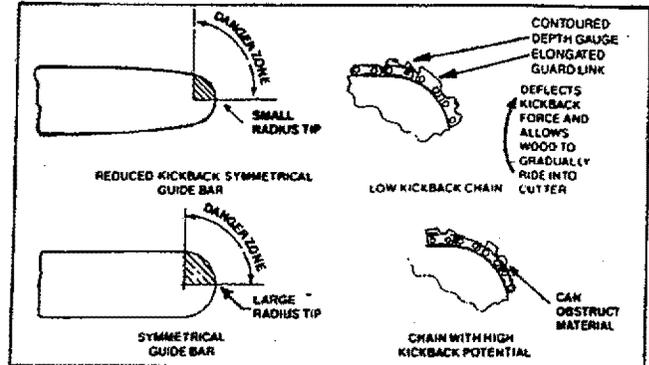

Figure 5
- **Reduced-Kickback Guide Bar**, designed with a small radius tip which reduces the size of the kickback danger zone on the bar tip. Figure 5. A Reduced Kickback Guide Bar is one which has been demonstrated to significantly reduce the number and seriousness of kickbacks when tested in accordance with the safety requirements for gasoline powered chain saws as set by the American National Standards Institute, Inc. Standard B175.1 - 1985.
- **Low-Kickback Chain**, designed with a contoured depth gauge and guard link which deflect the kickback force and allow wood to gradually ride into the cutter. Figure 5. Low Kickback Saw Chain is chain which has met the kickback performance requirements of ANSI B175.1 (Safety Requirements for Gasoline-Powered Chain Saws) when tested on a representative sample of chain saws below 3.8 cubic inch displacement specified in ANSI B175.1. (American National Standards Institute, Inc., Standard B175.1 - 1985).